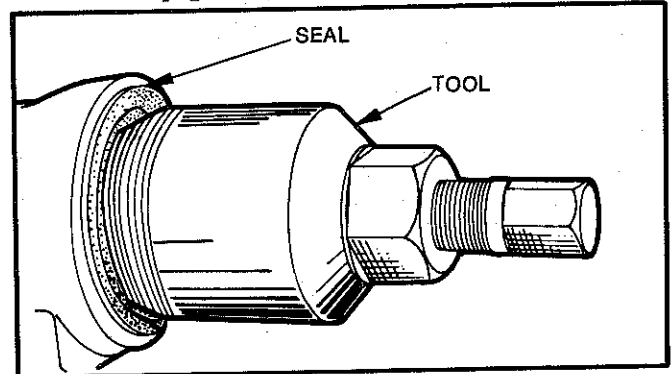

Fig. 15—Removing extension housing yoke seal
- (2) Remove the extension housing yoke seal (Refer Fig. 15) with Tool E6604.